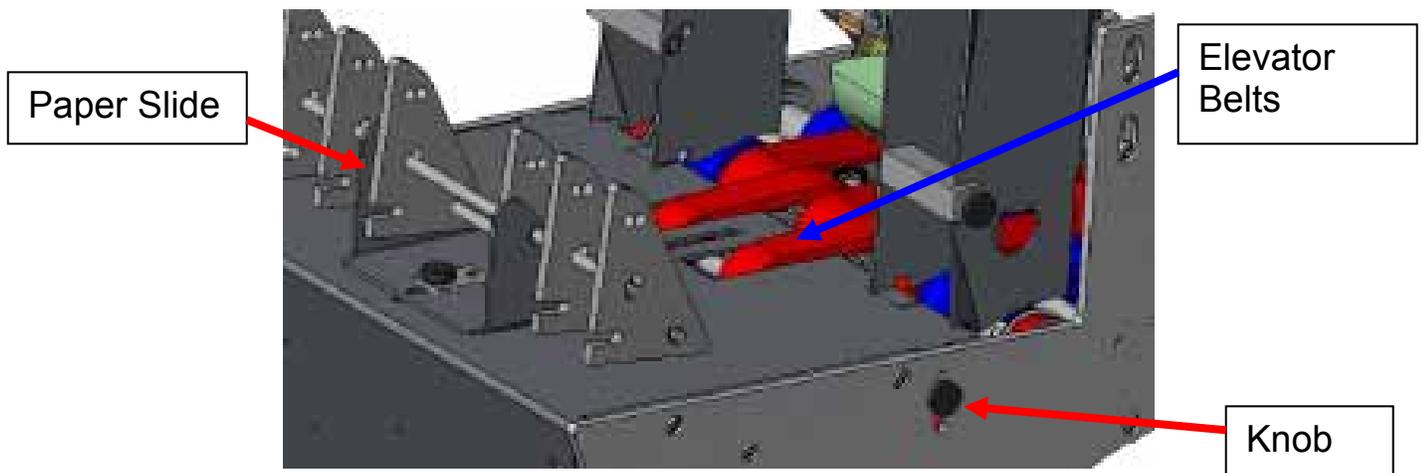

Figure III-10
1. Loosen the knob found on each side plate of the 1200-IJ Feeder, see Figure III-10.